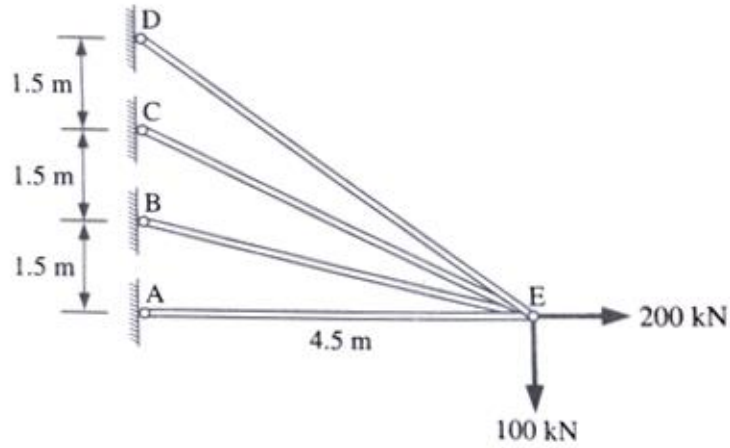

Fig. 7
6. Analyse the pin-jointed plane truss shown in Fig. 7 by stiffness matrix method. (6)